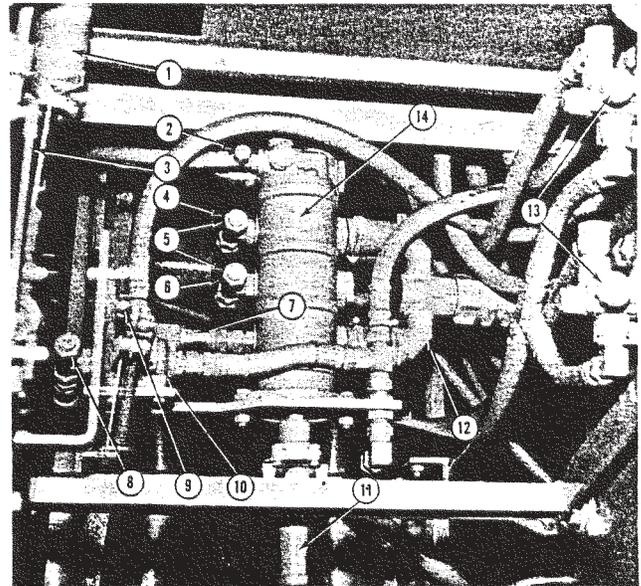

Figure 15
2. Disconnect vertical linkage connector (Figure 15) at upper ball joint.
veyor control valve being checked. (Figure 15). Once adapters are connected, install a 0-3000 P.S.I. pressure gauge in reducing bushing and start engine.
2. Hopper control relief valve adjustment. (Figure 15). This relief valve should be checked while engine is running at a slow idle (throttle closed).
A. With engine off, remove pressure check tee cap and install necessary adaptors (Anchor Coupling Company adaptor 8F-8JUFS or equivalent and 1/2 inch to 1/4 inch reducing pipe thread bushing. Etnyre P/N 6600944 and 0116524 respectively) in supply line from pump to steering control valve. (Figure 15). Once adaptors are connected install a 0-3000 P.S.I. pressure gauge in reducing bushing and start engine.